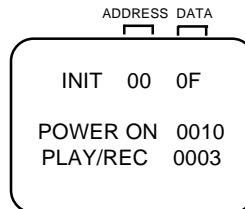

Fig. 1
2. Press both VOL. DOWN button on the set and the Channel button (6) on the remote control for more than 2 seconds. ADDRESS and DATA should appear as FIG 1.